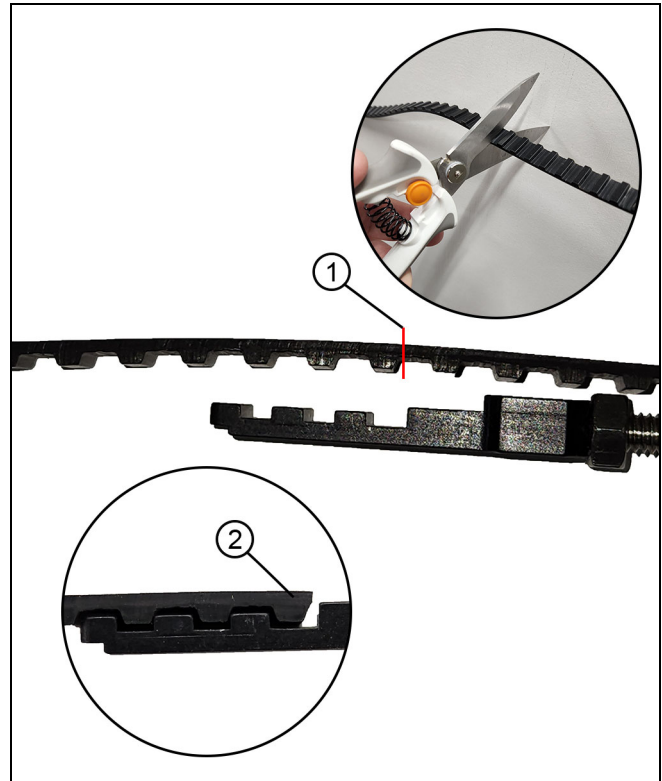

Figure 39
6. Pull the belt tight against the turnbuckle. Mark the belt to ensure there are 3 teeth of engagement on the turnbuckle. Cut the belt with a heavy shear. See Figure 39.